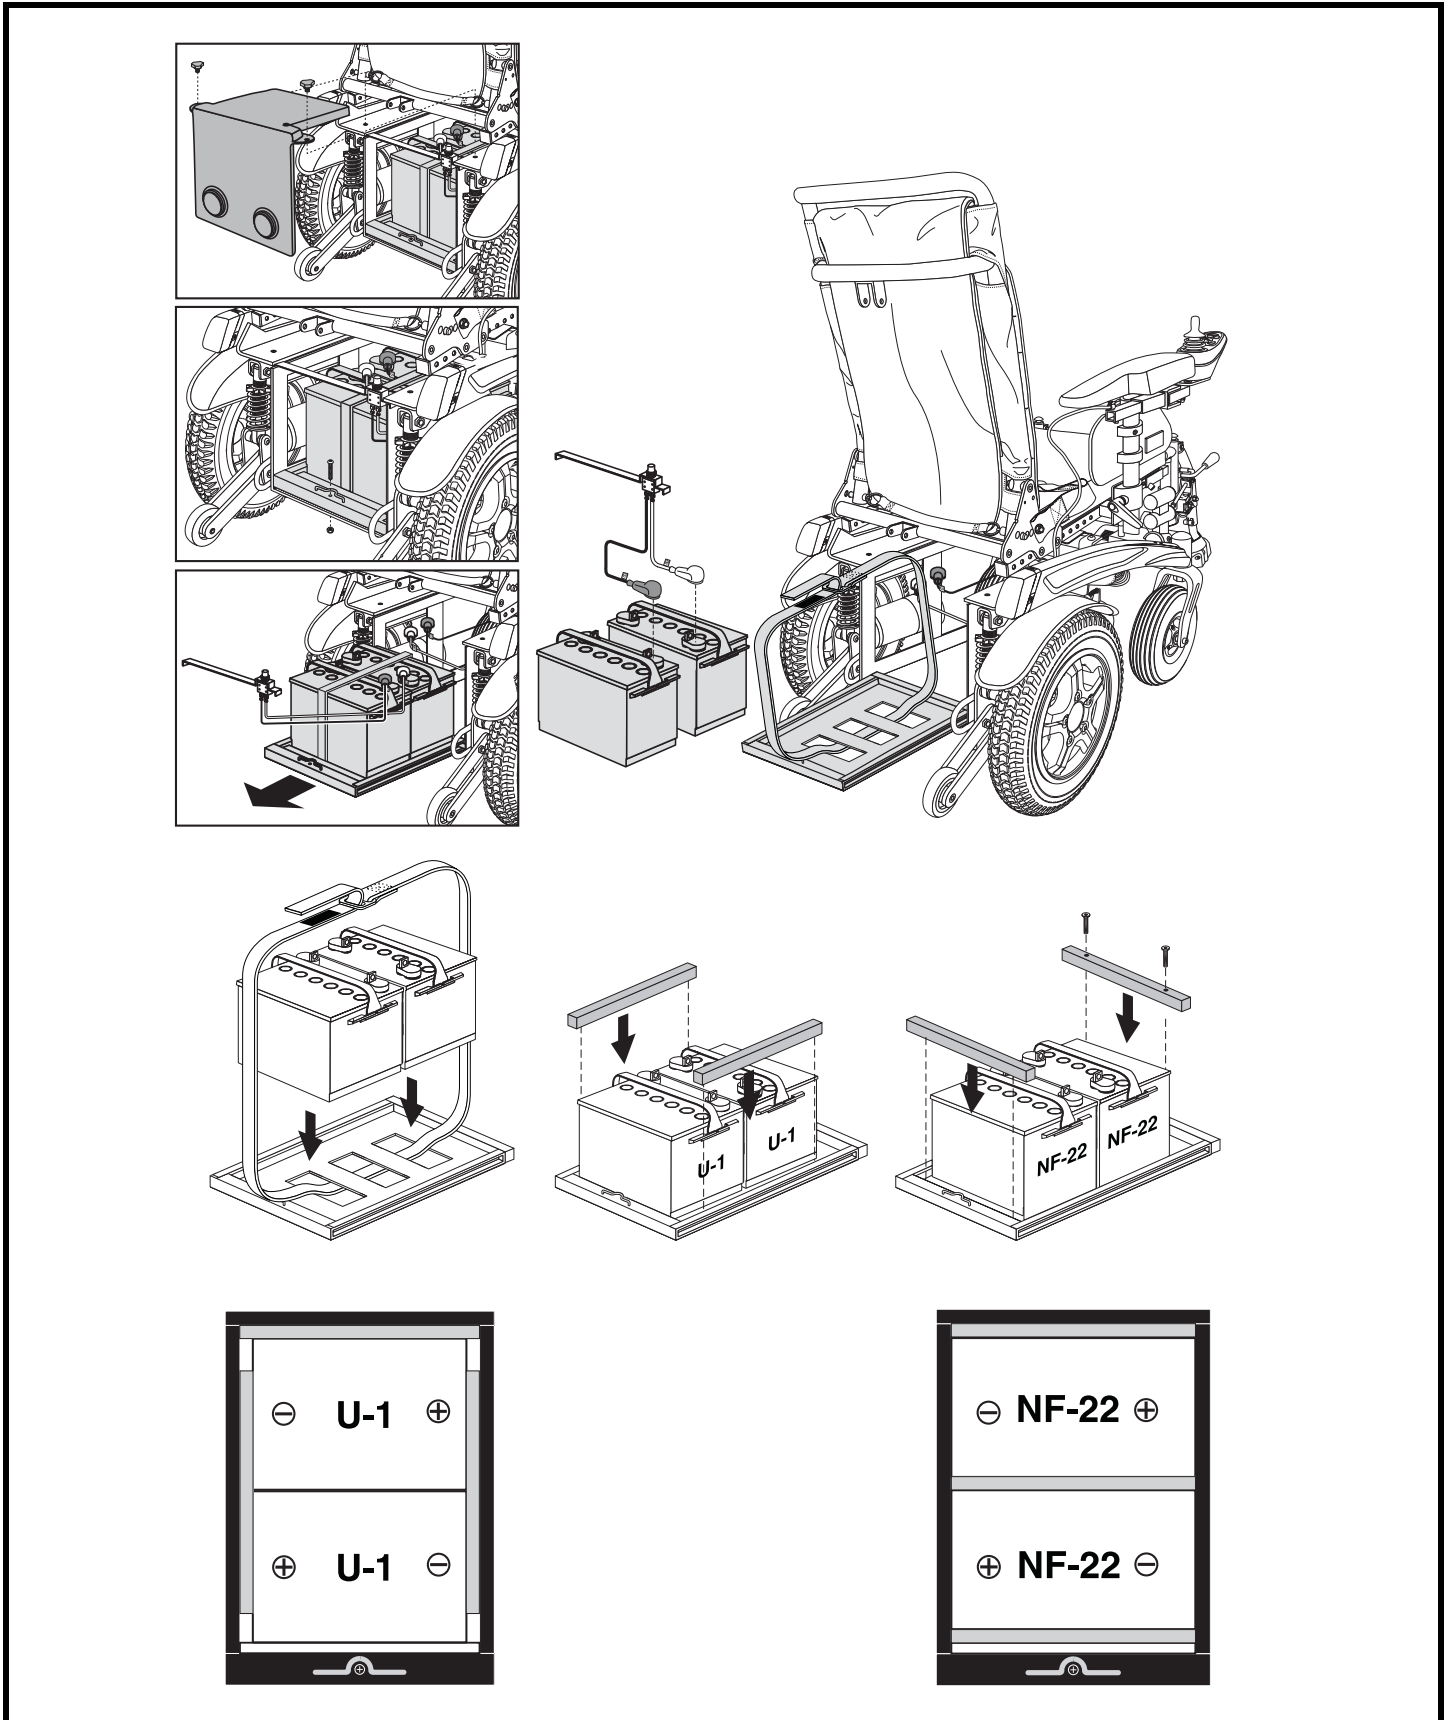

Figure 29. Battery Replacement
3. Remove the two (2) thumbscrews from the top of both sides of the rear cover.
6. Lift the battery tray by the handle and then slide the battery tray back. **See figure 29.**
10. Install the new batteries. **See figure 29.**
12. Connect the front battery cable to the front battery terminals according to the battery wiring diagram. **See figure 29.**
13. Connect the rear battery cable to the rear battery terminals according to the battery wiring diagram. **See figure 29.**
16. Reinstall the two (2) thumbscrews to each side of the rear cover.